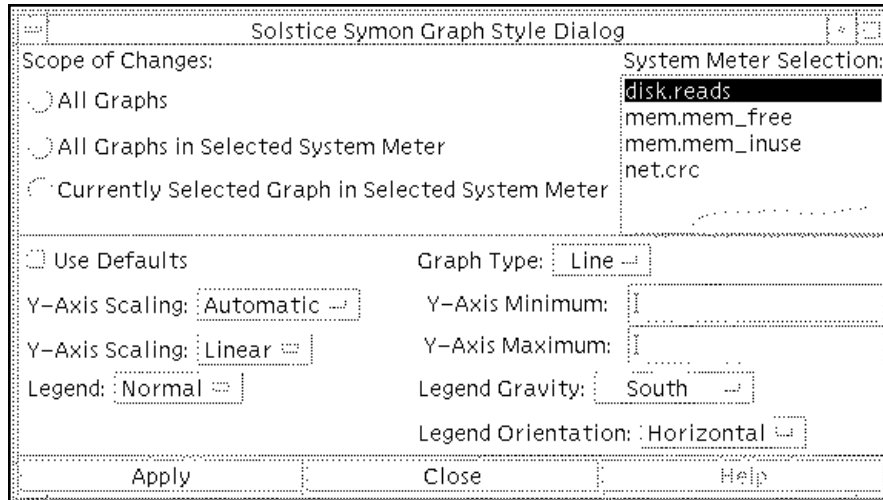

FIGURE 3-20 Graph Style Window Under the View Menu
The Graph Style window is displayed (see FIGURE 3-20).
2. **Select the graphs that you want to change, using the top section of the window (see FIGURE 3-20).**